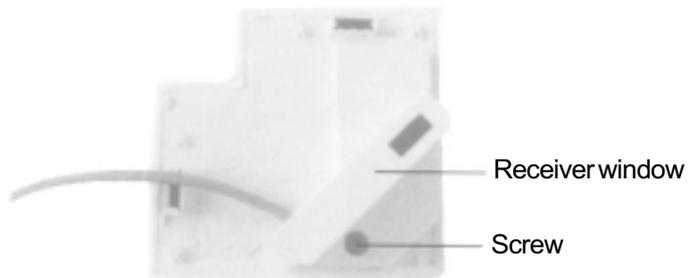

Figure 28
- ⑰ Disassemble the front panel control board.
- Using a screwdriver to unscrew the screw as shown in figure 28, pull forward and lift upward the receiver window and remove it.